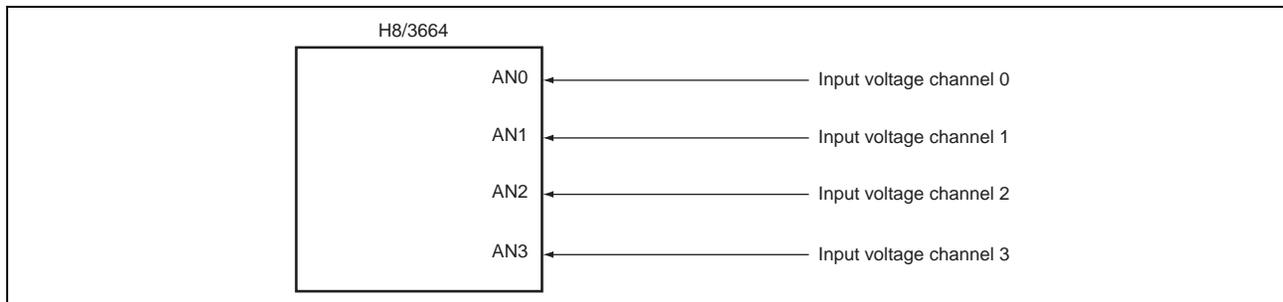

Figure 1 Voltage Measurement by 4-Channel A/D Conversion
- Inputs voltage to the H8/3664 Series through four channels, and stores the A/D conversion result in RAM, as shown in figure 1.